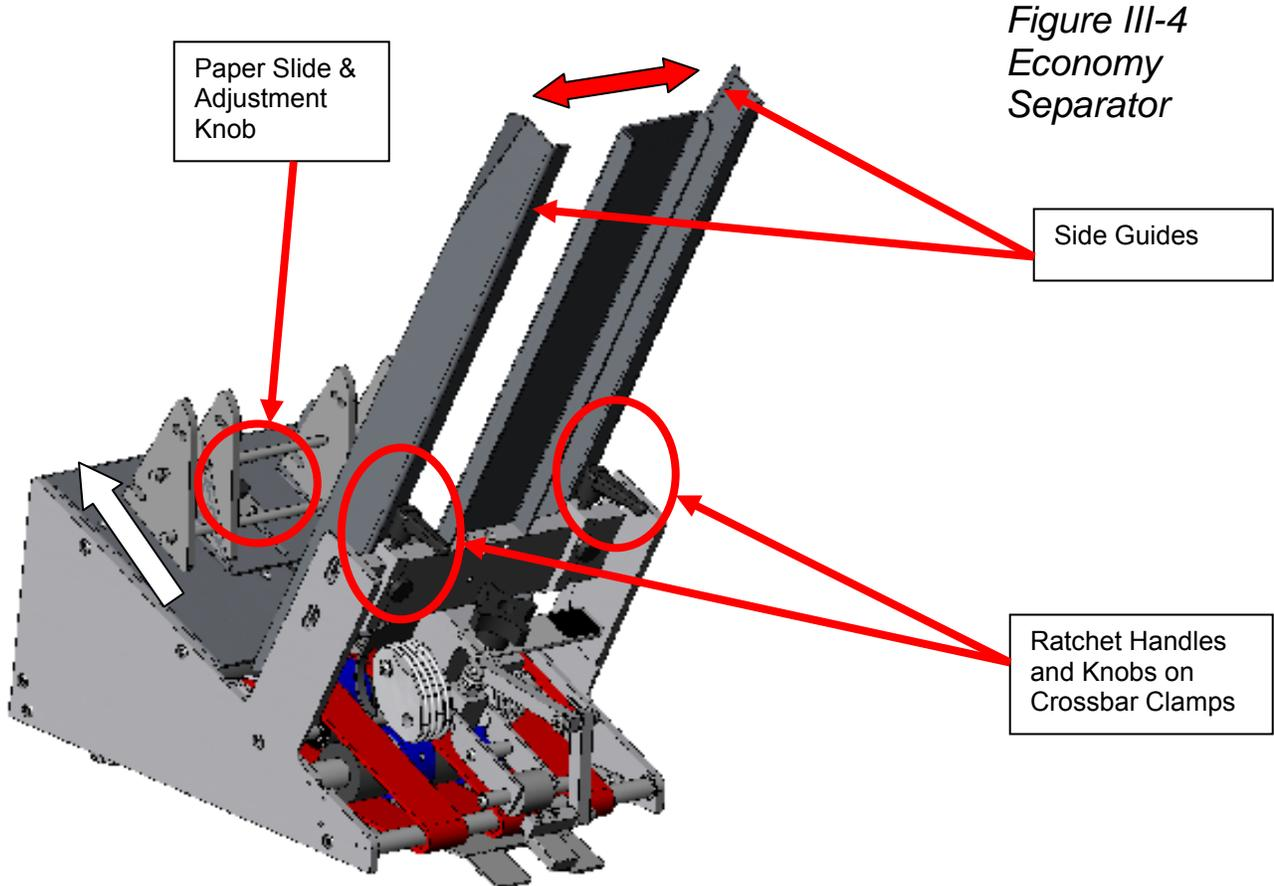

Figure III-4
- Loosen the ratchet handle and knob on each crossbar clamp to move side guides to outer edges of setup piece plus 1/16" clearance on each edge. NOTE: Inner side guides may need to be removed completely to accommodate wide pieces (see discussion with figure III-1). Loosen knob on paper slide (wedge) to move paper slide to its rearmost position (see later discussion on wedge positioning), see figure III-4.
8. Slide the Paper Slide forward (see step 5, figure III-4) to support the rear edge of the stack of production pieces.
10. Adjust the side guides to form a slight funnel effect (top is wider than bottom) and tighten the ratchet handles and knobs on crossbar clamps to hold the side guides in position, see figure III-4.